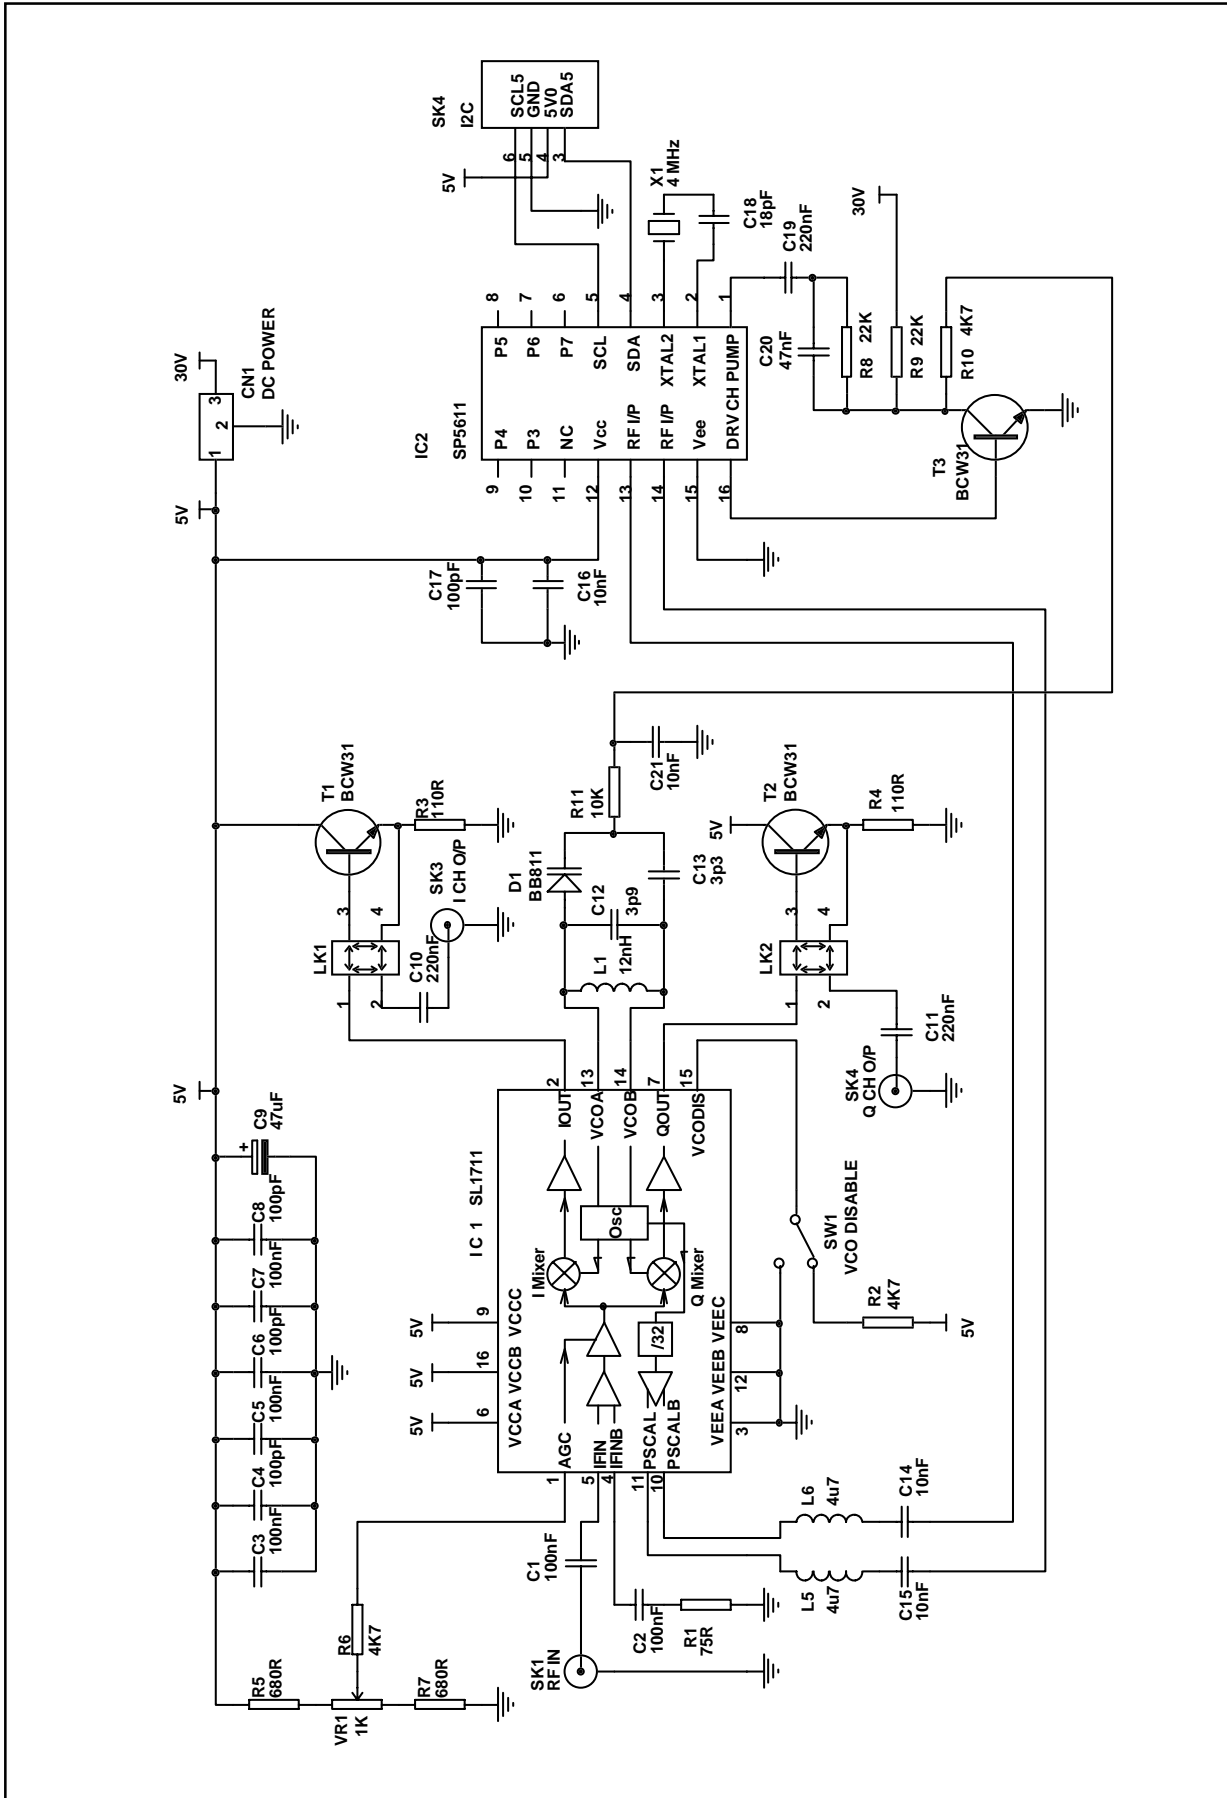
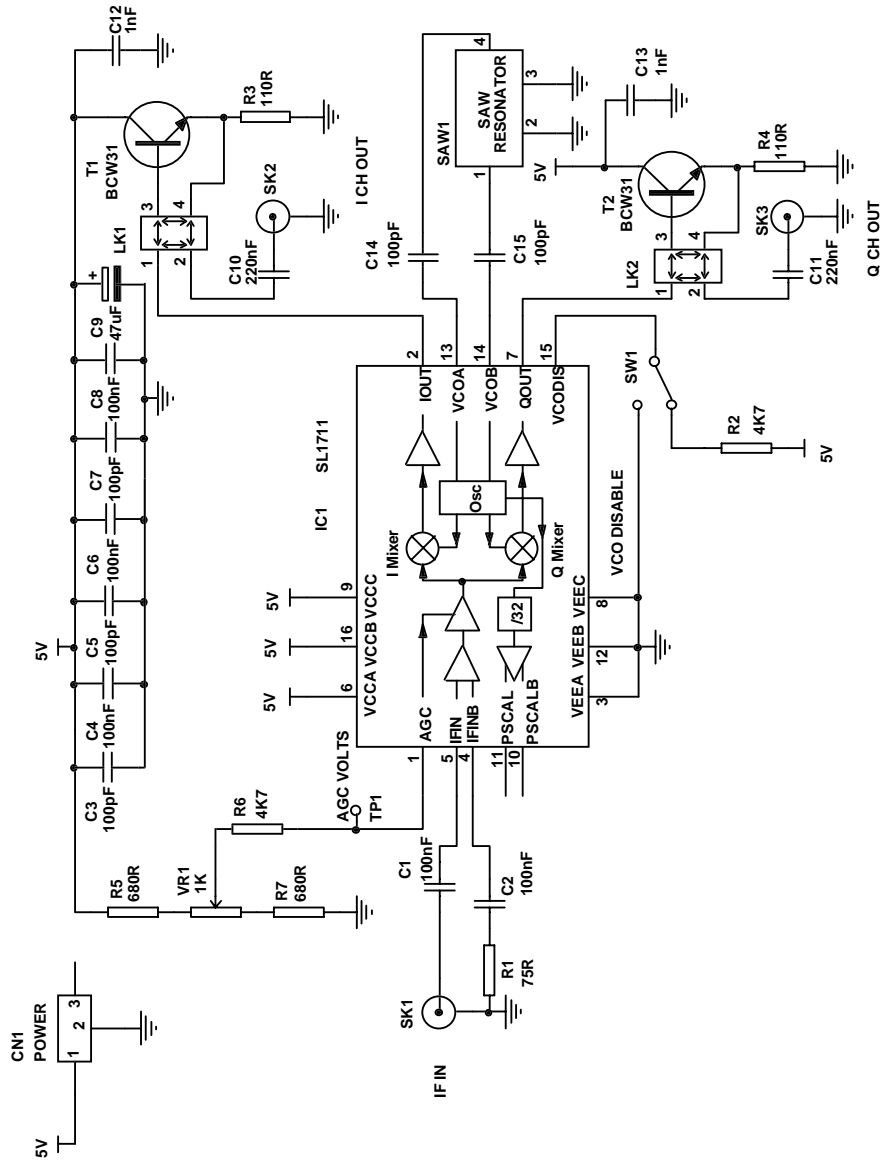
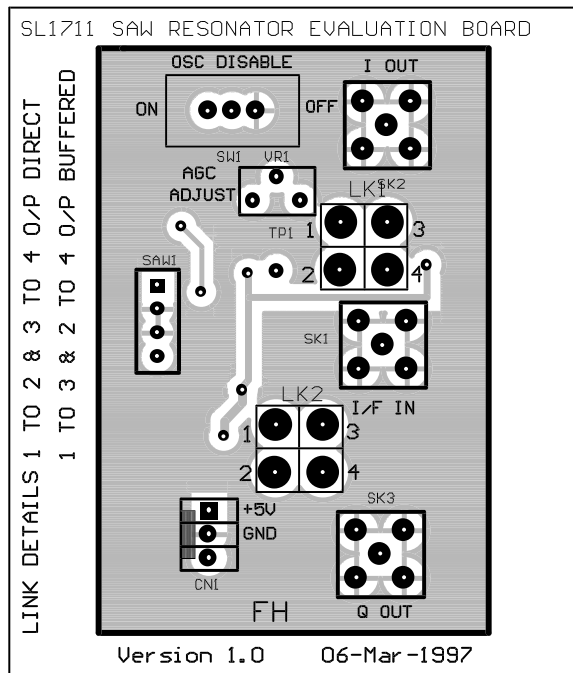
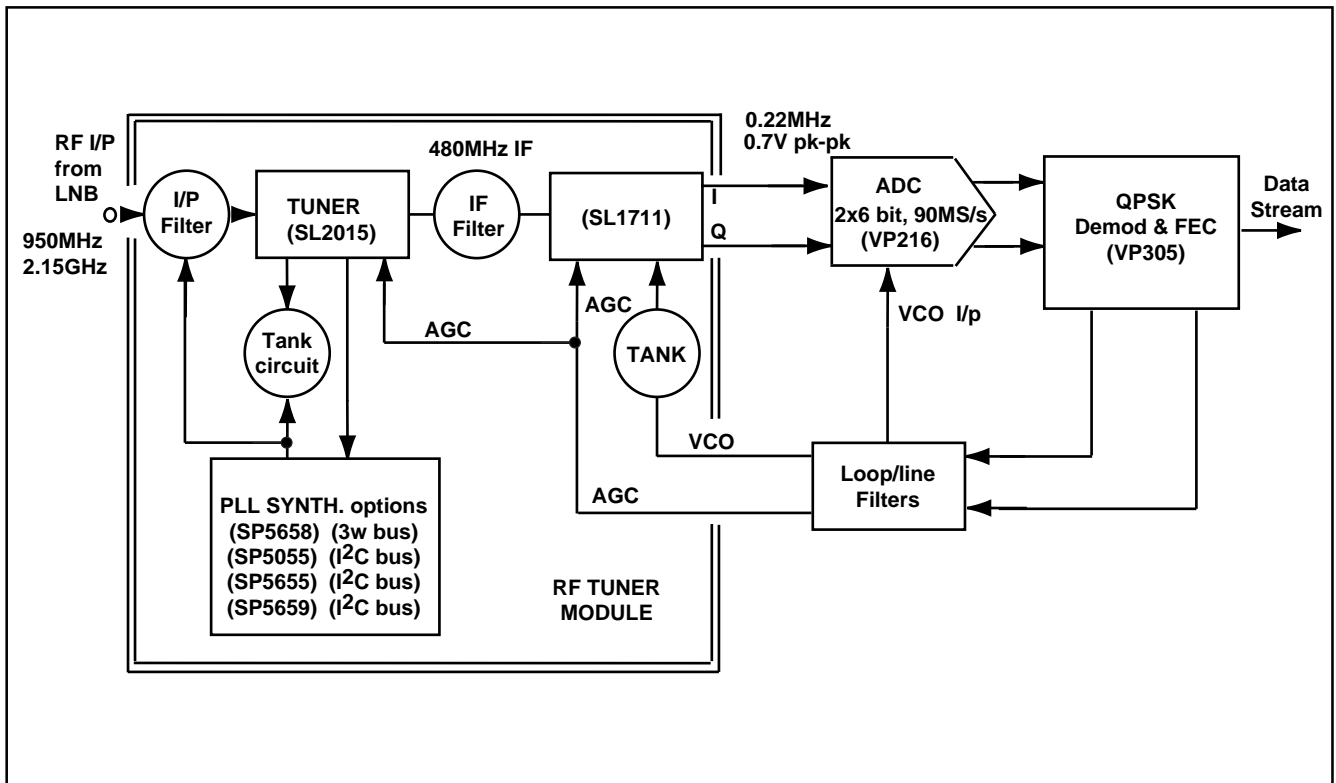

Fig.7 SL1711 standard evaluation board
Fig.10. SL1711 I & Q downconverter with SAW resonator
Fig. 11
Fig.13 Example digital front end architecture
These application notes should be read in conjunction with circuit diagrams contained in Fig. 7 and 10, and a recommended front end tuner solution contained in Fig. 13. These boards have been designed to demonstrate performance and to allow for initial evaluation of the SL1711.
Refer to Fig. 7 circuit diagram and Figs. 11 and 12 PCB layout.
Refer to Fig. 10 circuit diagram and Figs 11 and 12 PCB layout.
**Note:** All ICs shown in Fig. 13 are available from Mitel Semiconductor.